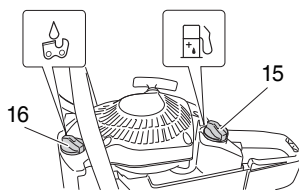

Fig. 9
Fueling**⚠ WARNING (Fig. 9)**
Chain oil (Fig. 9)
When pouring fuel (15) or chain oil (16) into the tank, place the unit with cap side up. (Fig. 9)